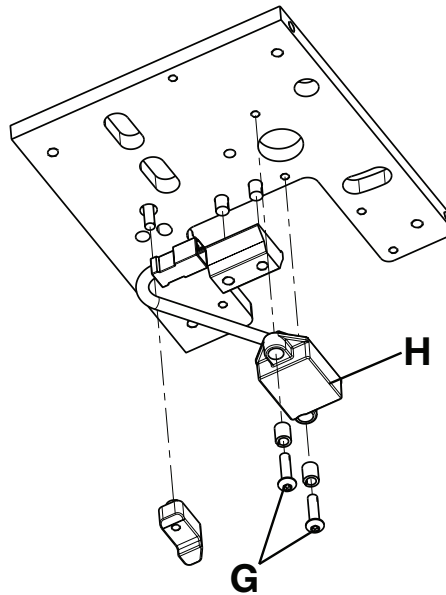

Figure 25 – TPS assembly bottom view
7. Using a 1/4" ratchet and a T25 Torx driver, remove the two button head cap screws (G) that secure the TPS assembly (H) (Figure 25).